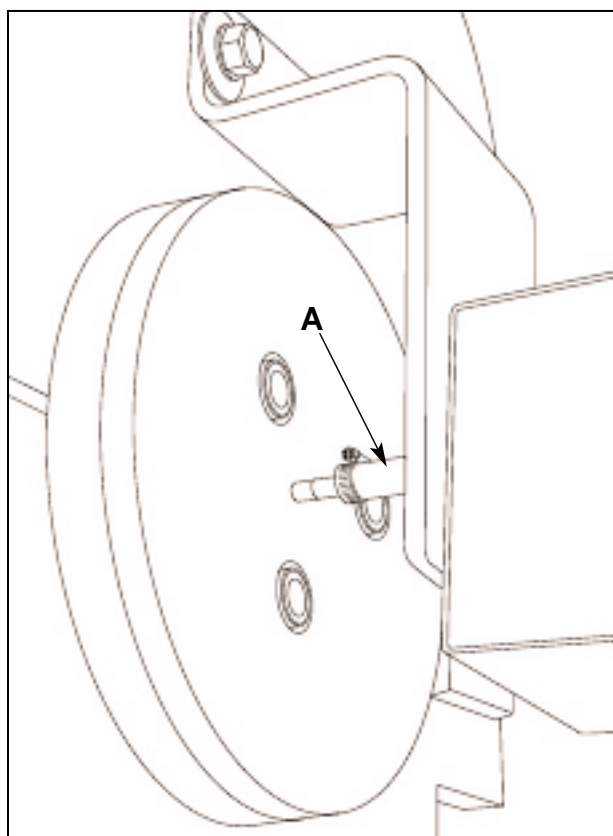

Figure 7.3 ROTARY SENSOR COUPLER
7.2 If the rotary sensor value shown in the screen is not 100°, loosen rotary sensor coupler (A) (as shown in figure 7.3) and make adjustment. To adjust, turn rotary sensor coupler until 100° is reached. Use the screen to monitor the rotary sensor. Make sure you tighten rotary sensor coupler before resuming adjustment.